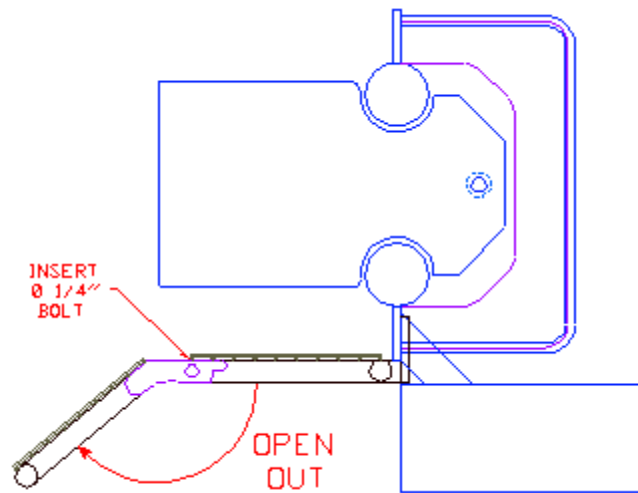

Figure 3 - Guard Attachment – Top down view
1. Rotate the front guard to the extended position, as shown in Figure 3 on Page 9.
2. Fit the $\frac{1}{4}$ " bolt through the hole in the bottom of the guard pivot, as shown in Figure 3 on Page 9.